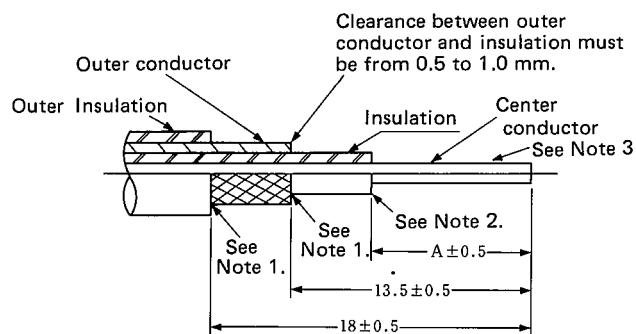

Fig. 2
- Strip the outer insulation to  $18 \pm 0.5$  mm from the cable end shown in Figure 2. Cut the outer conductor of the cable to  $13.5 \pm 0.5$  mm. Cut the insulation by dimension "A" specified in the table below.